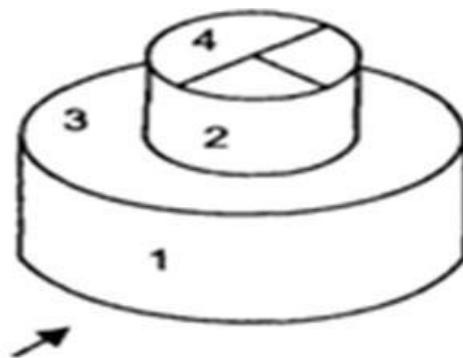

Figure 1
6. Using 1st angle orthographic projections draw the front elevation plan and end elevation for the given solid in figure 1 below. (4 Marks)